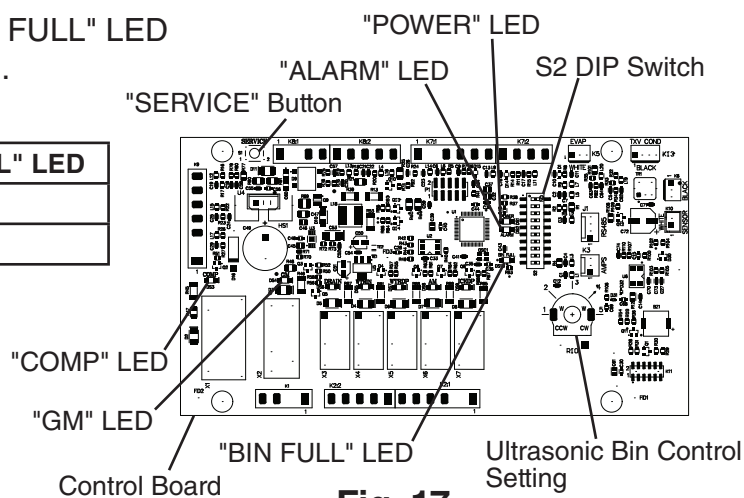

Fig. 17
- 5) Confirm the control board orange "BIN FULL" LED is off (bin empty). "POWER LED" is on. See Fig. 17.
- 7) Make sure the "GM" LED is on. See Fig. 17. There is a delay of at least 30 sec. before the "GM" LED turns on after power-up. After "GM" LED turns on, press the "SERVICE" button on the control board to bypass the 5-minute compressor delay. **WARNING! Risk of electric shock. Care should be taken not to touch live terminals.** Confirm the "COMP" LED turns on.